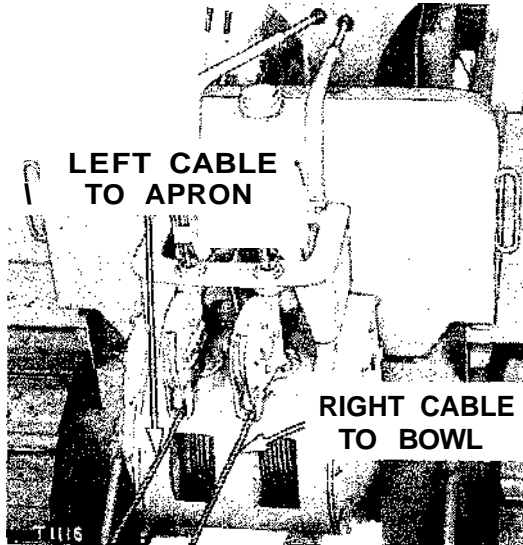

FIGURE 6—CABLE CONTROL FOR SCRAPER USE
(7) The control lever may be moved to the extreme "brake released" position where it is held in the "lockout" position permitting the drum to be turned by hand.
B. Application, (See figures 6 and 7.)
(1) When the cable control is used for operating a bulldozer, the cable is spooled onto the right drum.
(2) When the cable control is used for operating a ripper, the left drum should be used. The right drum may then be used to operate a bulldozer, if necessary.
(3) When operating a scraper, the right drum controls the bowl, and the left drum controls the apron and ejector.